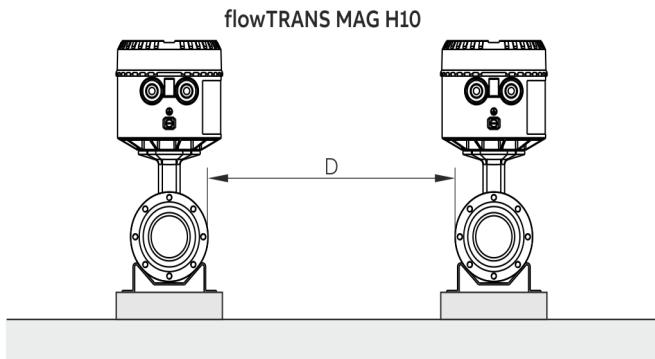

Figure 11: Distance (D): $\geq 1.0 \text{ m} (\geq 3.3 \text{ ft})$
- To rule out that the devices interfere with one another, ensure that the minimum distance between the devices shown in Figure 11 is maintained.